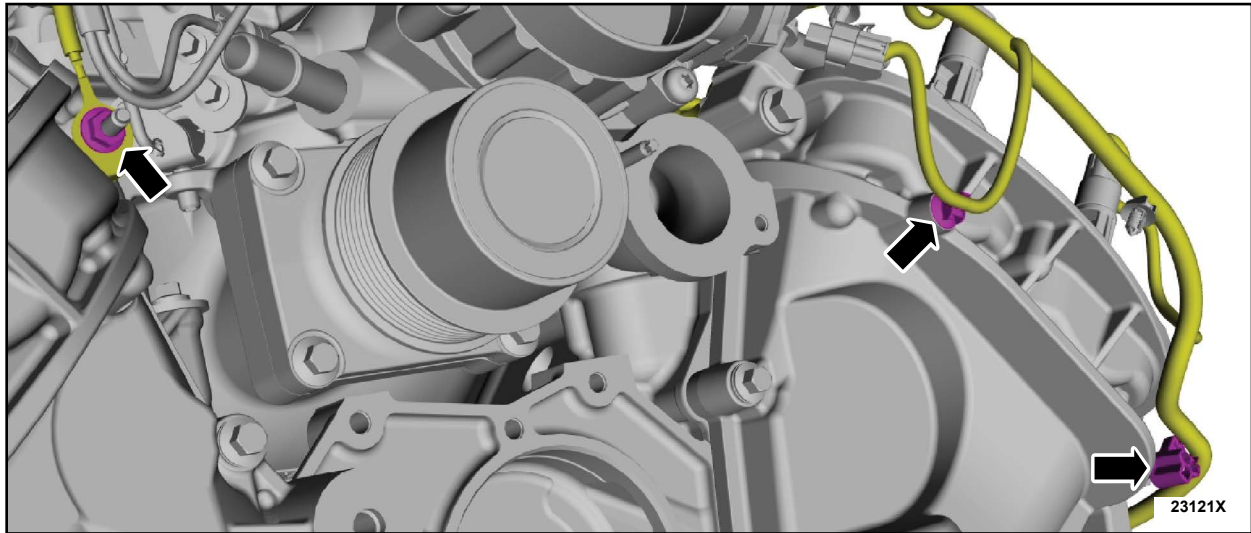

FIGURE 32
14. Detach the wiring harness retainers, remove the nut and the ground wire. See Figure 32